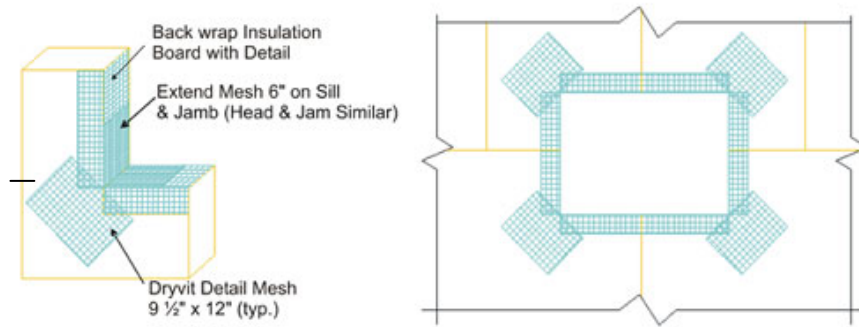

Figure 11
18. Corners of all openings such as windows, doors, mechanical equipment and all penetrations shall be reinforced with Detail Mesh placed diagonally to the opening as illustrated in Figure 11.